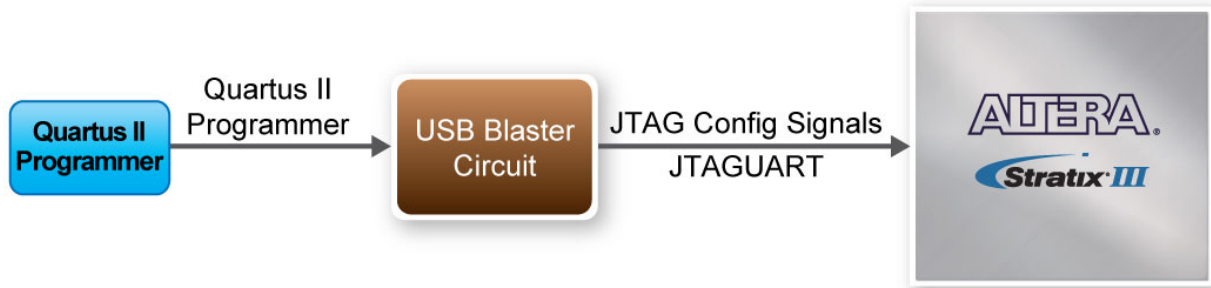

Figure 2.1 The JTAG configuration scheme
- Connect the USB cable supplied to the USB Blaster port of the DE3 board (see Figure 2.1)